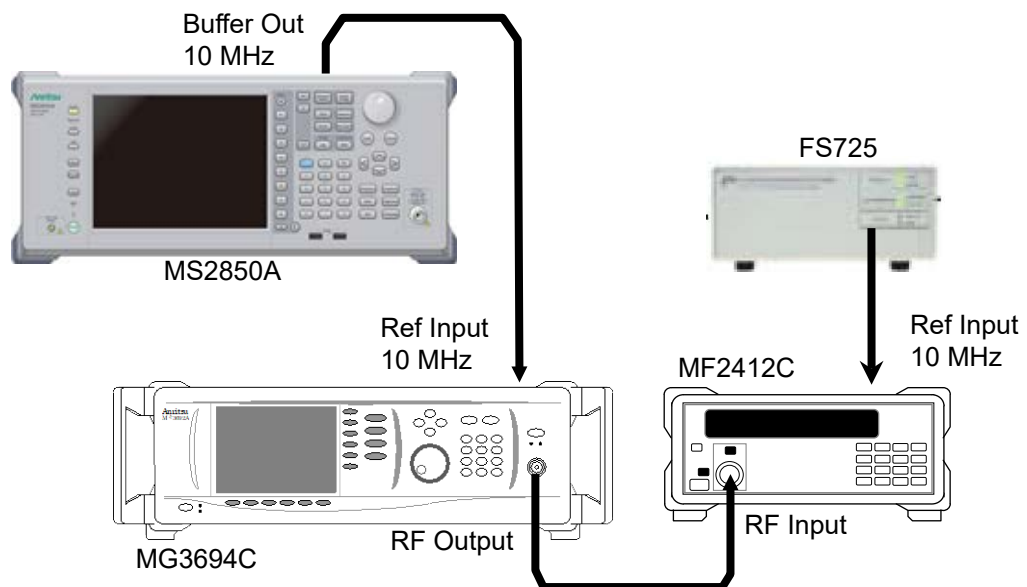

Figure 6.2.8-1 Internal reference oscillator
4. Connect the equipment in reference to Figure 6.2.8-1.